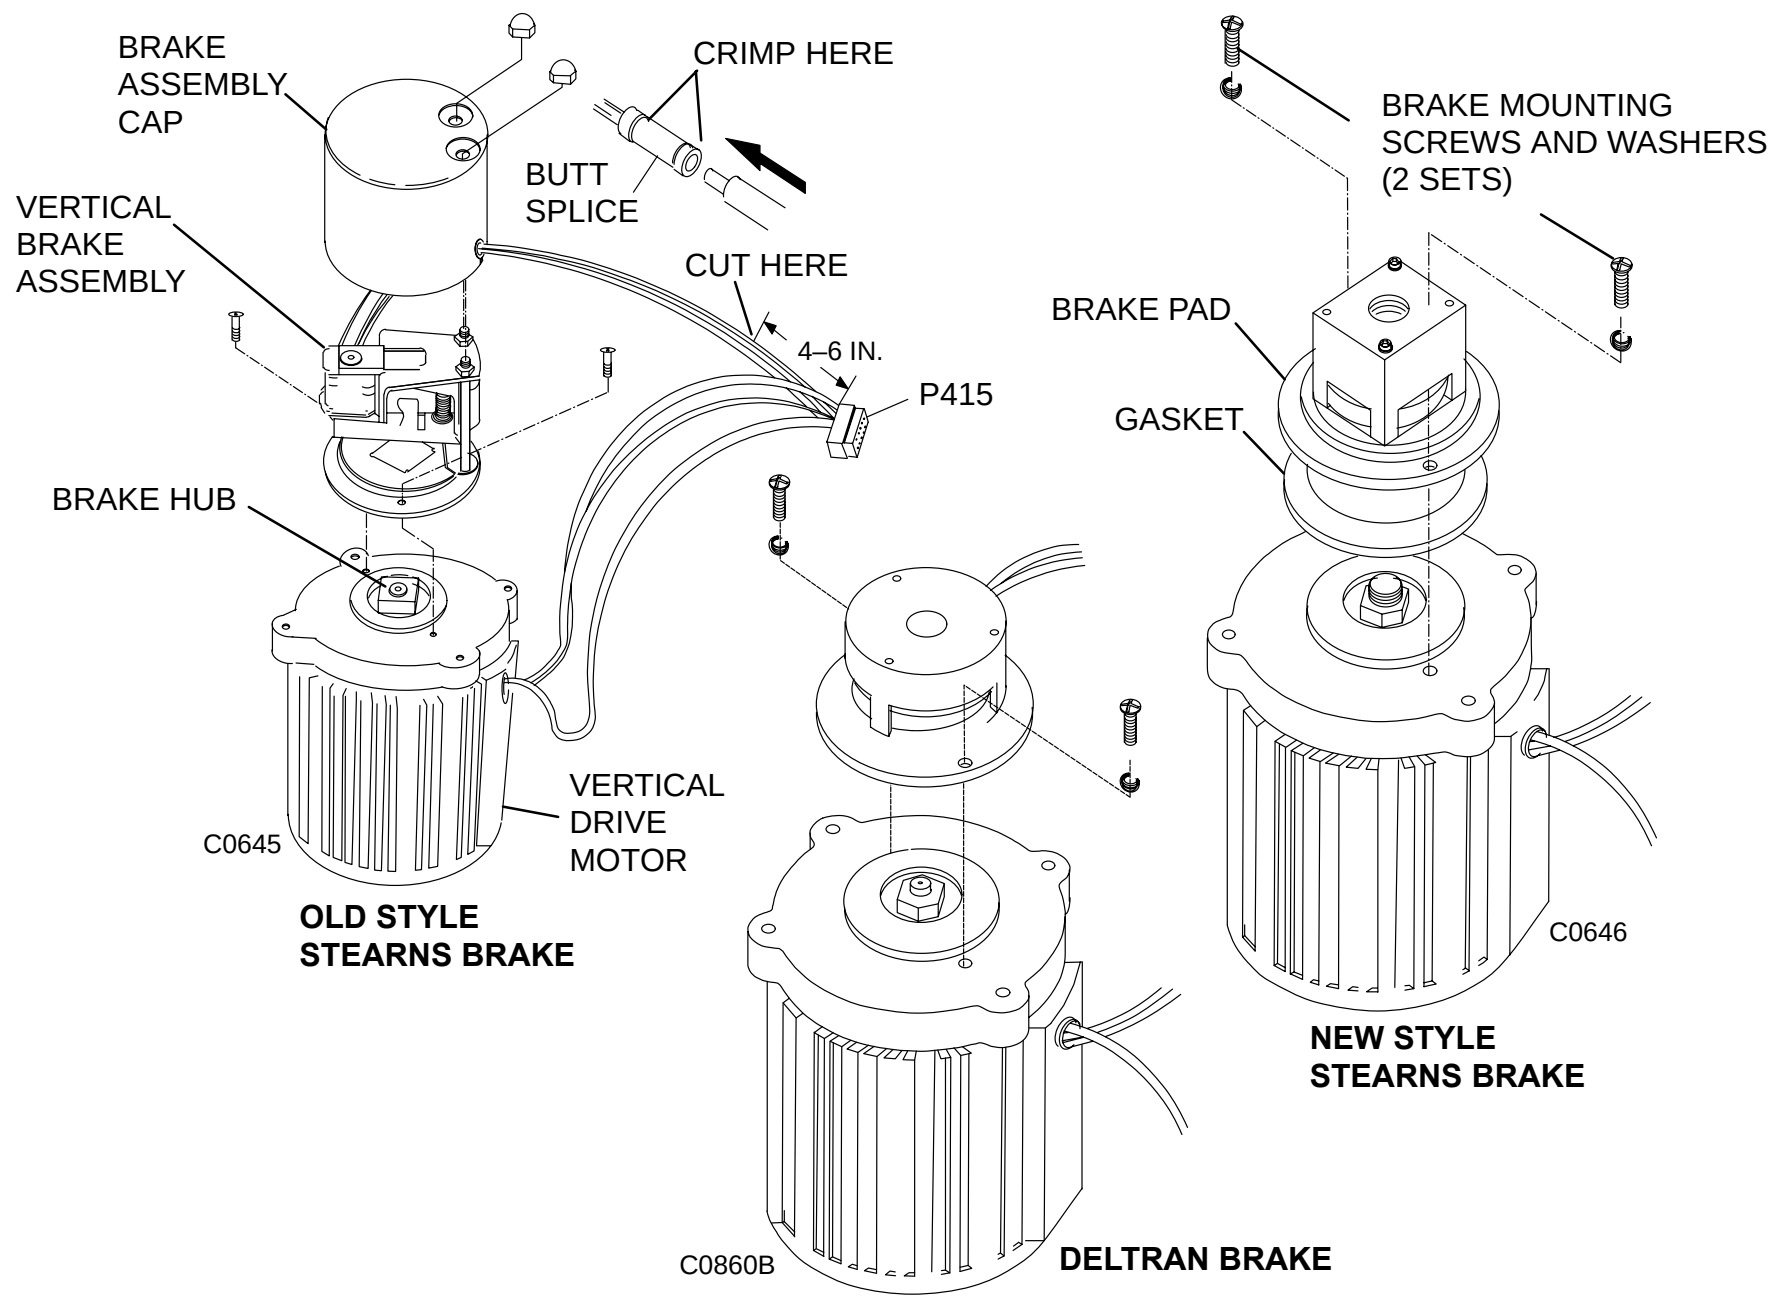

FIGURE 216 VERTICAL MOTOR AND BRAKE
11. Cut the two wires in the cable that connect to the brake assembly. Cut the wires four to six inches from connector P415. See Figure 216.
23. Secure the brake assembly to the motor with the two screws and lockwashers. Refer to Figure 216.
26. Secure the brake assembly to the motor with the two screws and lockwashers. Refer to Figure 216.